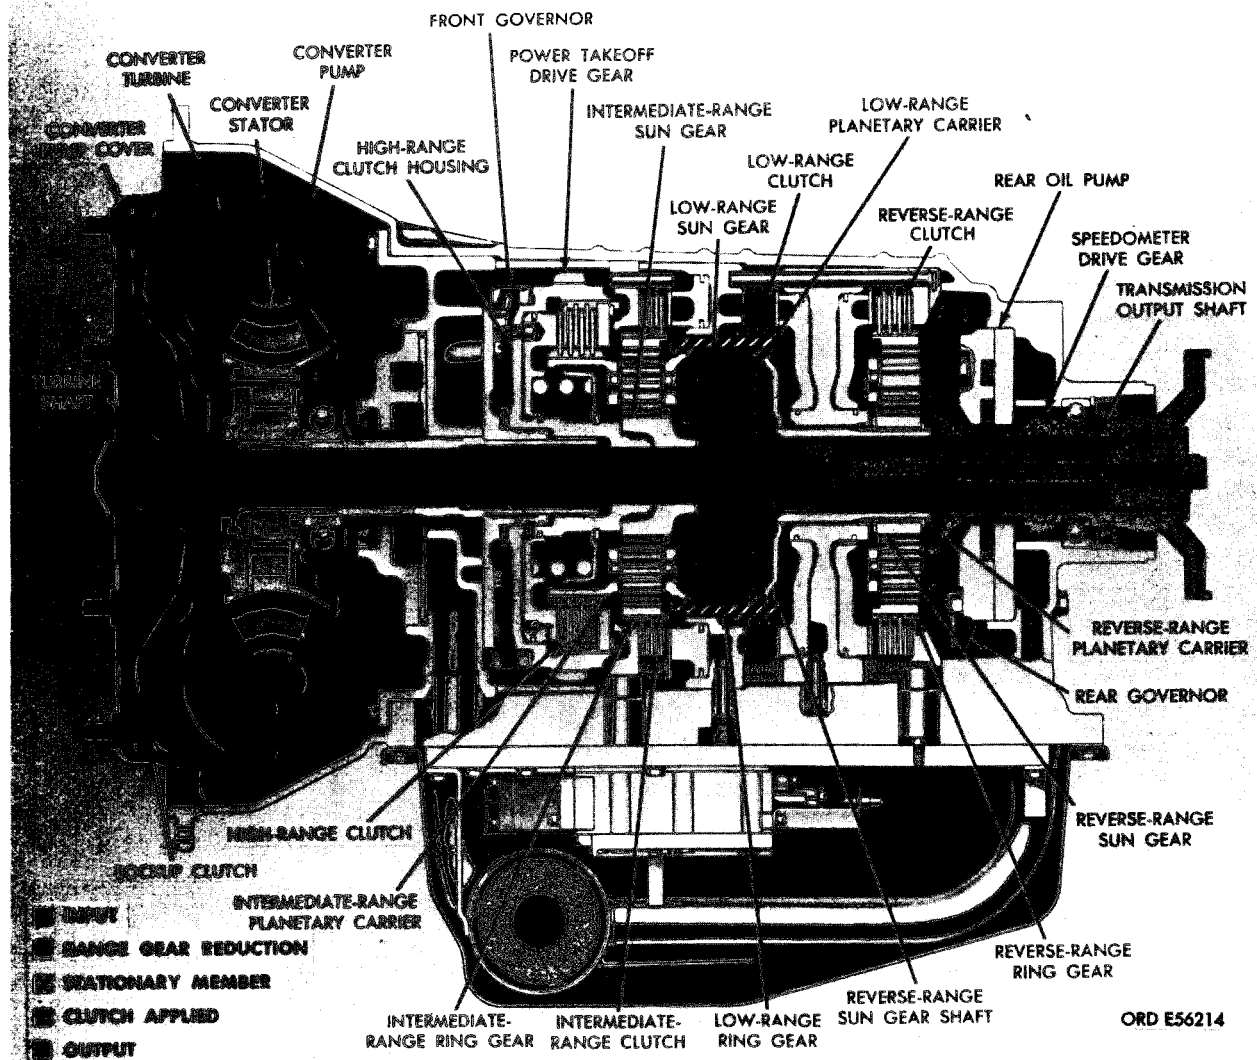

Figure 2-12. Low-range torque path, lockup operation
#### 2-23. Torque Path—Low Range (fig. 2-12)
*a.* Lockup operation (direct drive through the torque converter) is shown in figure 2-12. However, converter operation is equally applicable and is always in effect until turbine shaft speed (and front governor speed) is sufficient to cause lockup. Thus, the vehicle always starts in converter operation regardless of the selector position used.